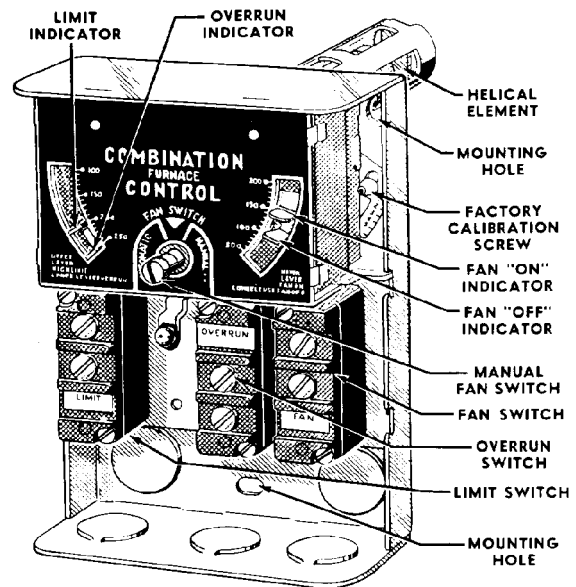

Figure 7-8. Combination fan and limit control.
a. *Limit and fan controls for forced warm-air.* Occasionally a separate limit control and separate fan control are found on a forced warm air installation. Generally, the two will be included in a combination furnace control, having either a single common actuating element or a separate element for each switch (figure 7-8). Installation and operation procedures are described below.